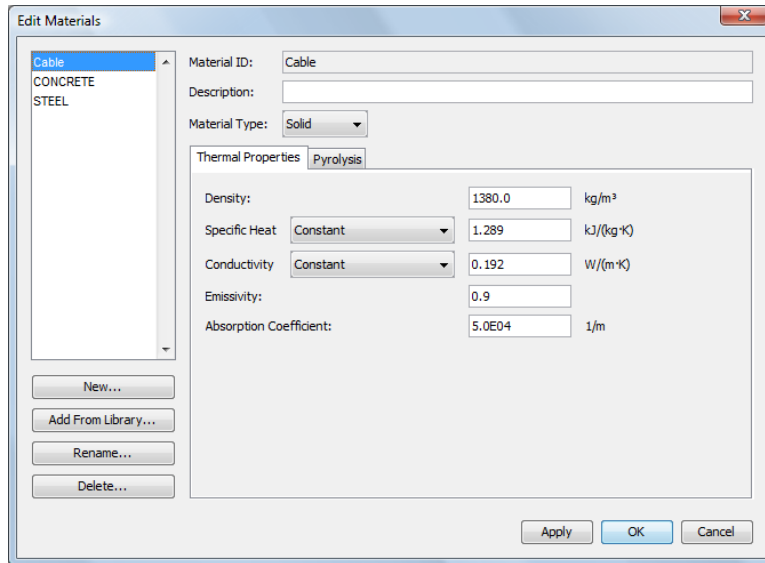

Figure 6.6. Thermo-plastic properties
4. In the **Density** box, type 1380 kg/m^3 , Figure 6.6.